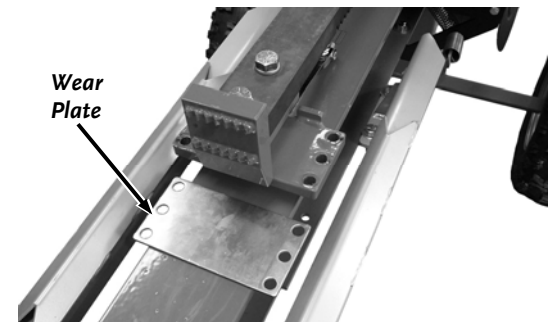

Figure 24
3. Pull the Wear Plate out from under the Carriage and check thickness. If thickness is less than half worn turn Plate over and reinstall. If thickness is more than half worn install a new one (**Figure 24**).